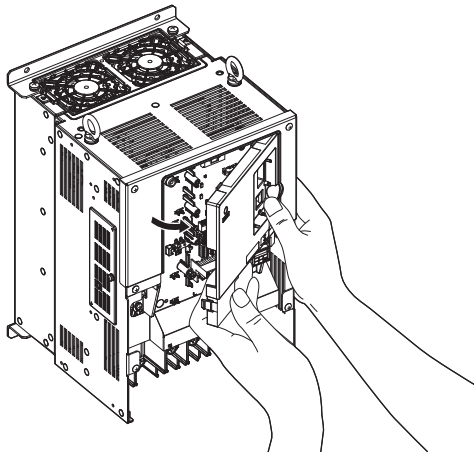

Figure 3.14 Remove the Front Cover (Models CIMR-L□2□0085 to 2□0415 and 4□0045 to 4□0216)
4. Unhook the left side of the front cover then swing the left side towards you as shown in Figure 3.14 until the cover comes off.